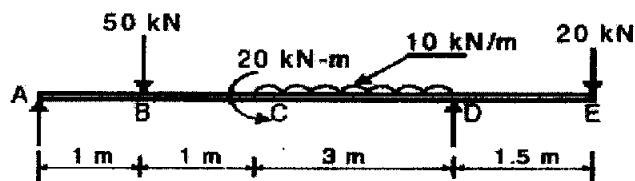

Figure 6
- (b) Draw the Shear force diagram (SFD) and Bending Moment Diagram (BMD) of given beam as shown Figure 6. (6)